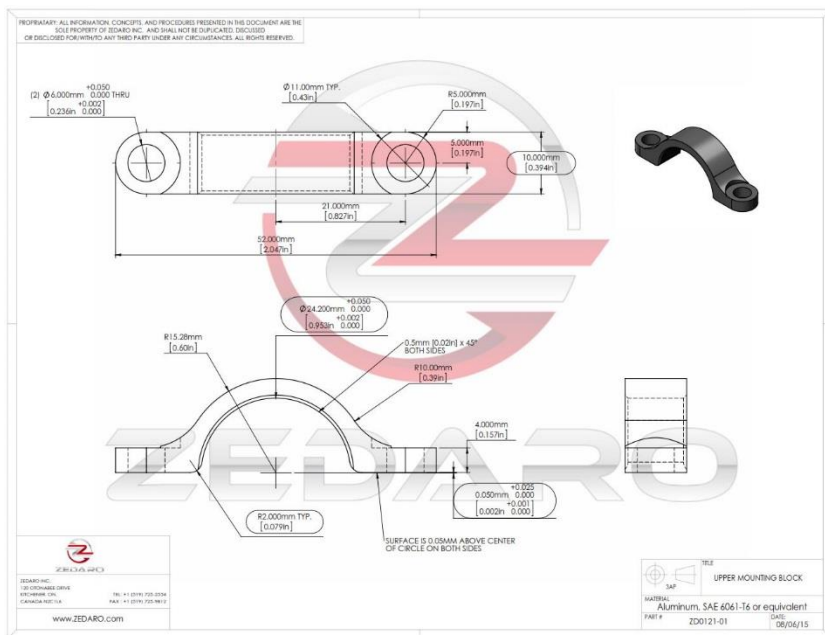

Figure 9: Upper Mounting Block
* Please see Figure 9 in section “ACCESSORY DRAWINGS” for dimensional data.